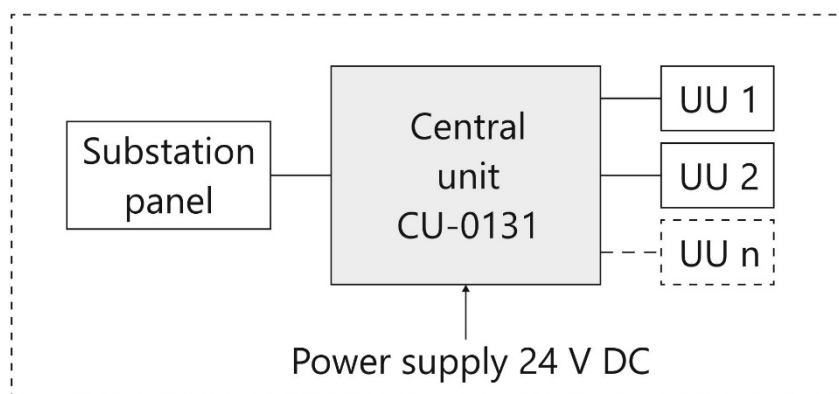

Figure 3 – Example of multichannel communication based on one CU
b) **Multichannel communication based on one CU** – to organize communication among a group of users united in a single network. Communication is carried out using the CU (see Figure 3).